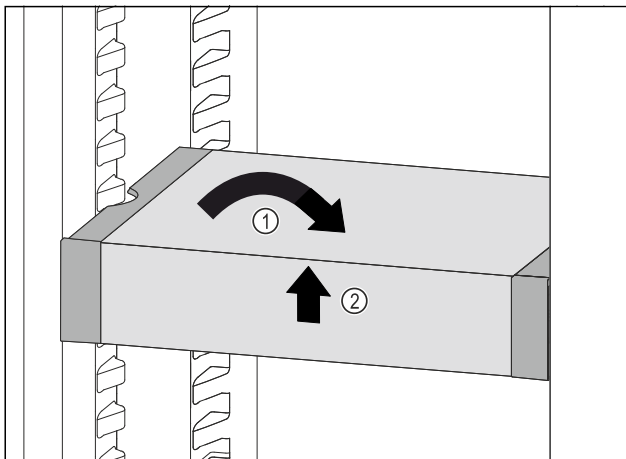

Fig. 120
- ▶ Set VarioSafe straight. Fig. 120 (1)
- ▶ Lift VarioSafe at the front. Fig. 120 (2)